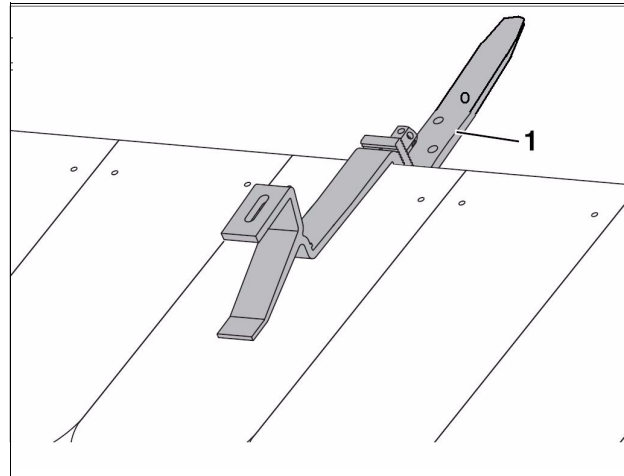

Fig. 16 Installed roof hook
- Push the lower part of the hook down until it lies flat on the sheathing (Fig. 16, [1]).
The toothed washer (Fig. 16, [2]) must engage with the teeth on the lower part of the roof hook.